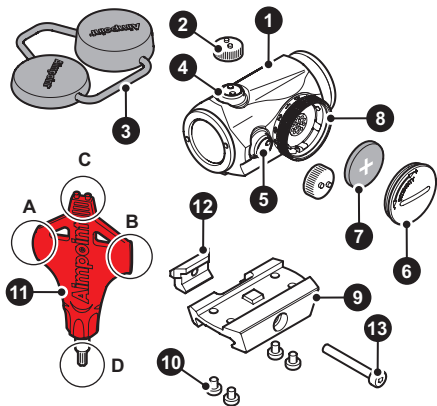

Fig. 1
- a Remove Battery cap (6) using the Tool (11A).
- b Insert Battery (7) with the positive end (+) toward Battery cap (6) as can be seen in Fig 1.